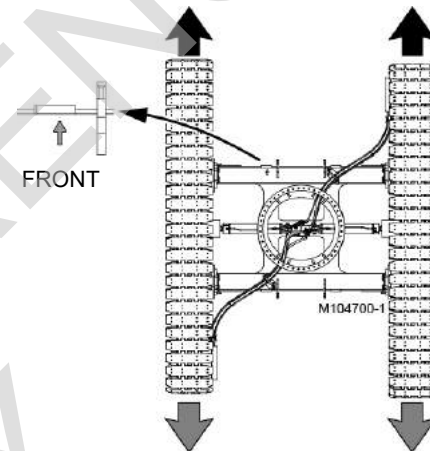

Figure 3-15. Travel Straight
- A red painted arrow (Figure 3-15) on the front of the carbody indicates the FRONT of the carbody.
6. To TRAVEL STRAIGHT (Figure 3-15), move both of the crawler handles the same amount in the desired direction from the neutral position.